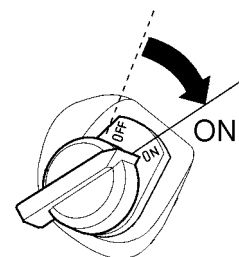

Figure 17. Engine ON/OFF Switch (ON)
4. Place the engine ON/OFF switch (Figure 17) in the **"ON"** position.